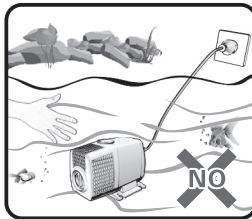

Figure 2
- Always disconnect the power supply before doing any maintenance or placing your hands into the water to which this pump is immersed. (Figure 2)